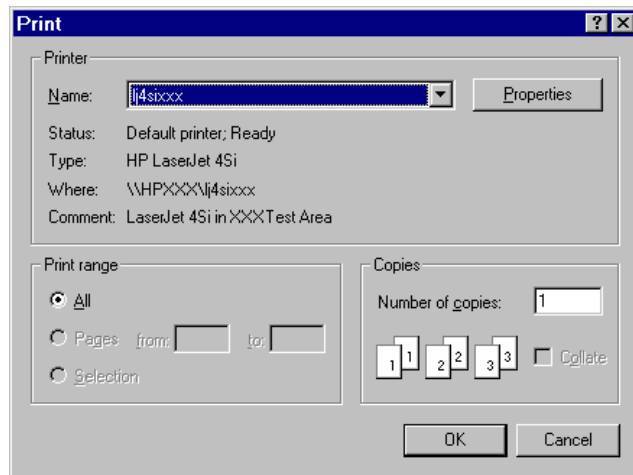

Figure 30 Printing the Screen
- 9 Continuing with the same example, to print the screen, select **File** $\Rightarrow$ **Print Screen**. On Windows, the dialog box in Figure 30 appears.